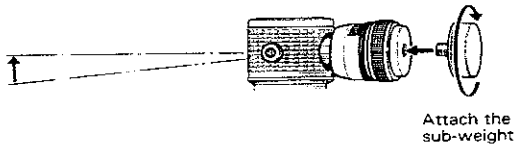
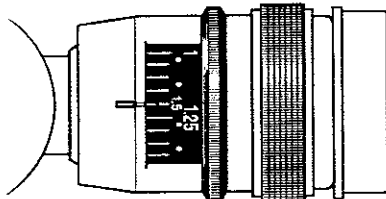

Fig. 23
Fig. 24
- If the weight of the plug-in head (head-shell with cartridge) exceeds 21 g (when a cartridge heavier than 9 g is used together with the supplied head-shell) attach the sub-weight at the rear of the main weight as shown in Fig. 23 and adjust the stylus pressure. In this case, the counterweight scale is changed. At that time, the stylus pressure is indicated with blue numbers (Fig. 24)